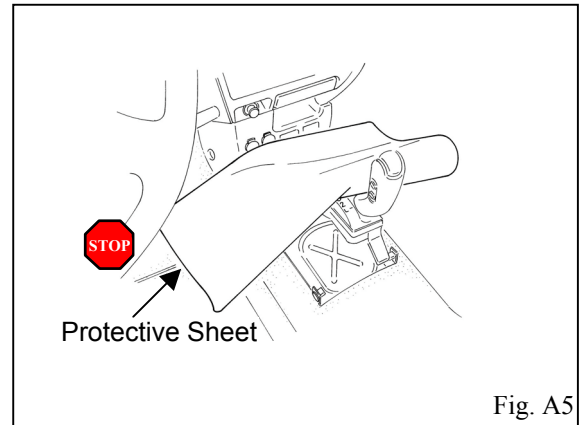

Fig. A5
-  6. Prepare a blanket, and then place the blanket over the front edge of the center console. (Fig. A5)